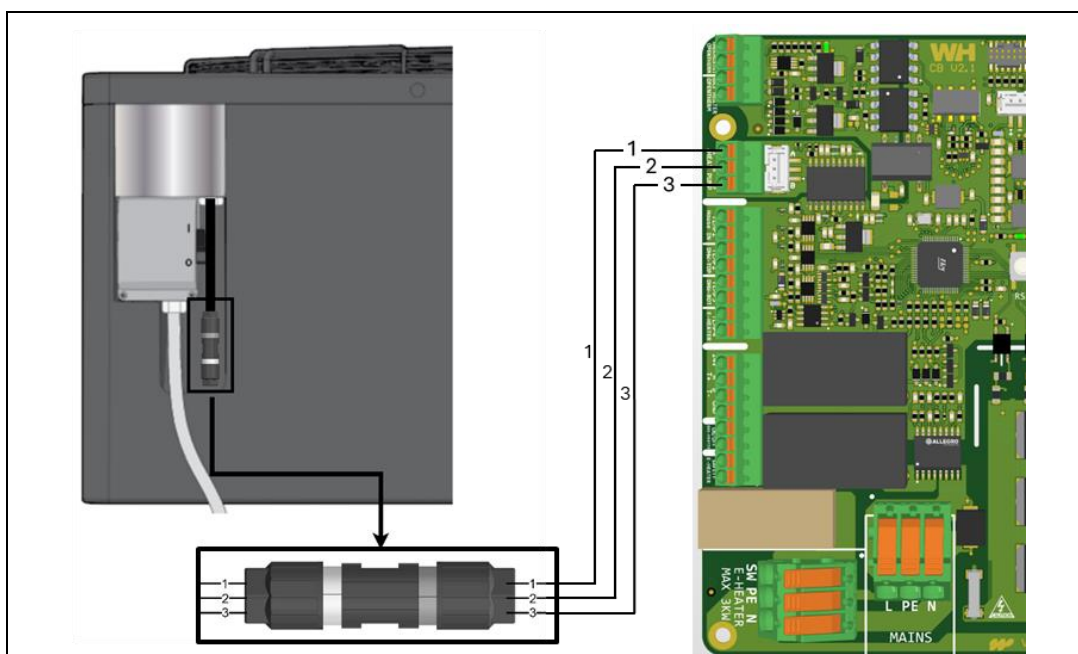
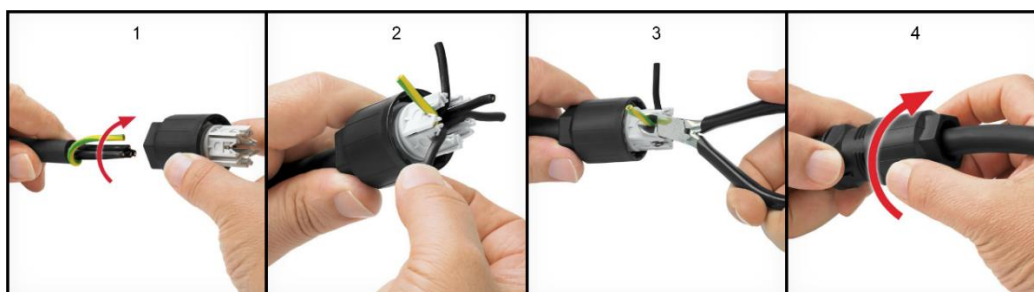

Figure 4-8: Connecting the communication cable to the control bridge.
Figure 4-9: Example connection of communication connector
7. Connect the communication cable so that it matches the connection on the indoor unit, as shown in Figure 4-8 and Figure 4-9. Ensure that the cable shows no signs of wear.
In Figure 4-9, 5 wires instead of 3 are used for connecting the communication connector. It should be 3. Use the numbering as indicated in the figure.